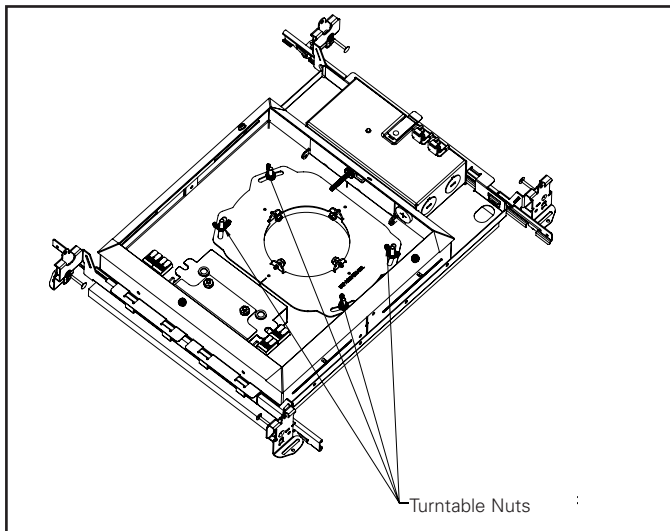

Figure 6.
6. For square apertures, the edges of the collar may be adjusted to align them parallel with room walls. This can be done by reaching into the cutout and loosening the wing nut on plaster frame shown in fig 6. Note: the optics may need to be removed to access these screws, see the section on replacing optics. The entire turntable can be rotated by grabbing the edge of the collar until it is aligned as desired. The turntable screws are to be tightened again, (and the optics module replaced, if it was removed).